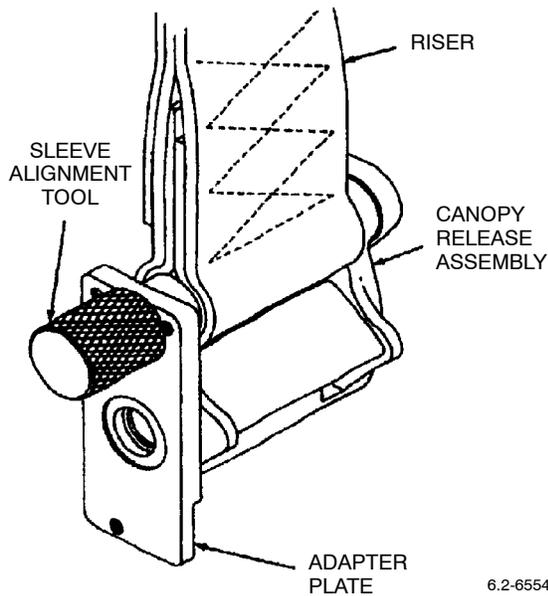

Figure 16. Install Sleeve Alignment Tool
- d. Install sleeve alignment tool (finger-tight only) thru adapter plate, canopy release and into sleeve that is installed in riser. Loosen sleeve alignment tool 1/4 to 1/2 turn (Figure 16).